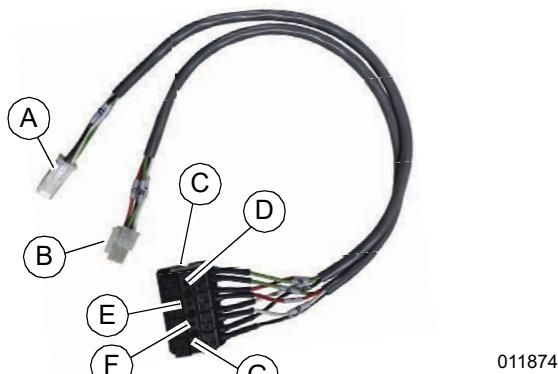

Figure 2. J3 Breakout Harness
3. See **Figure 2**. Connect male end (B) of J3 breakout harness to controller.
4. Connect female end (A) of J3 breakout harness to generator harness.